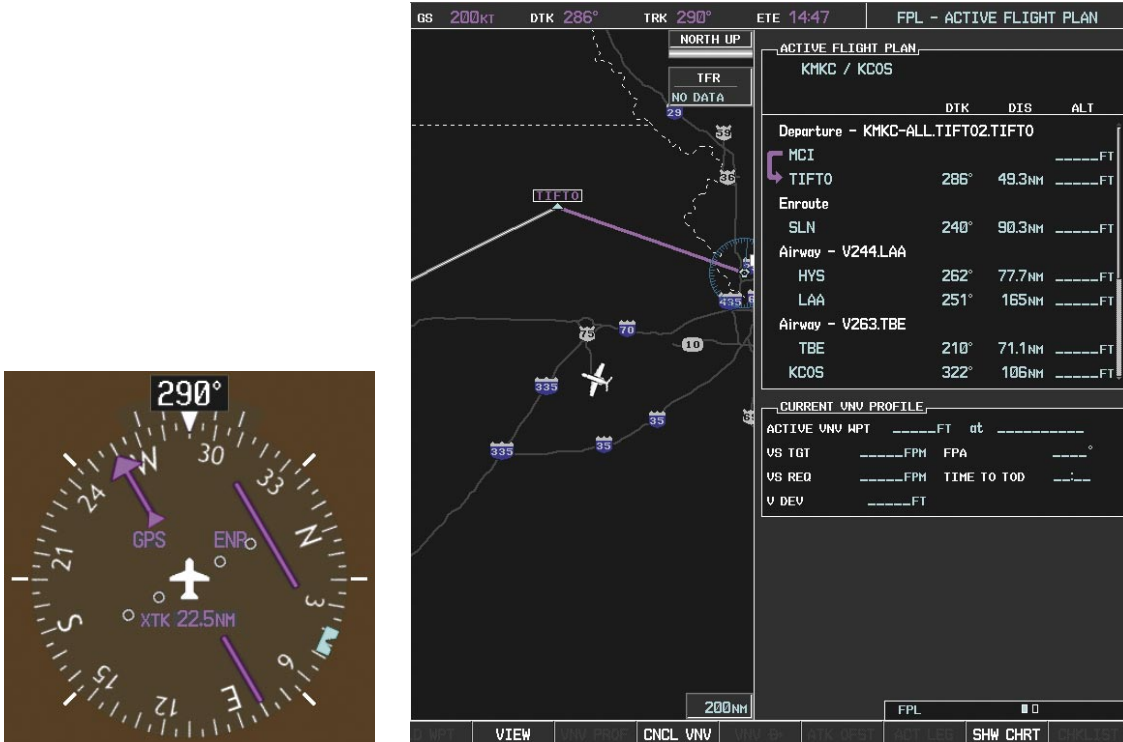

Figure 5-103 Assigned Heading of 290°
- 3) ATC now assigns routing to join V4. A heading of 290° is assigned to intercept V4. The aircraft turns to heading 290° as seen in Figure 5-103. Note the current CDI flight phase is now ENR (Enroute). When the aircraft reached 30 nm from the departure point, the flight phase changed from TERM to ENR on the HSI and CDI scaling changed to 2.0 nm.